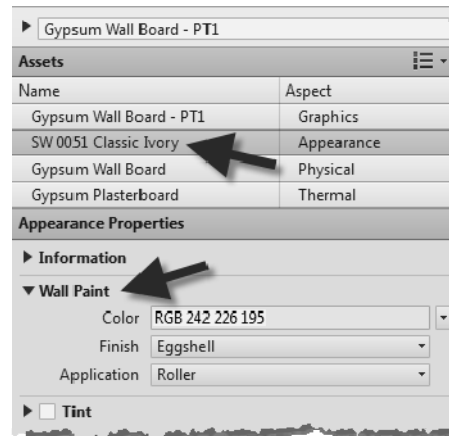

FIGURE 4-3.17 Final appearance settings
Now you can adjust the specific paint information for your *Material* (Figure 4-3.17). Keep in mind that this *Appearance* asset may be applied to other *Materials* in your project. For example, the asset could be applied to a CMU wall, or metal railing. Any adjustments made to the asset are instantly applied to all *Materials* which use it.
56. Make sure the **Use render Appearance** under *Shading* is checked (Figure 4-3.17).
15. Set the RGB color to R=231, G=220, B=202 (similar to Figure 4-3.17).